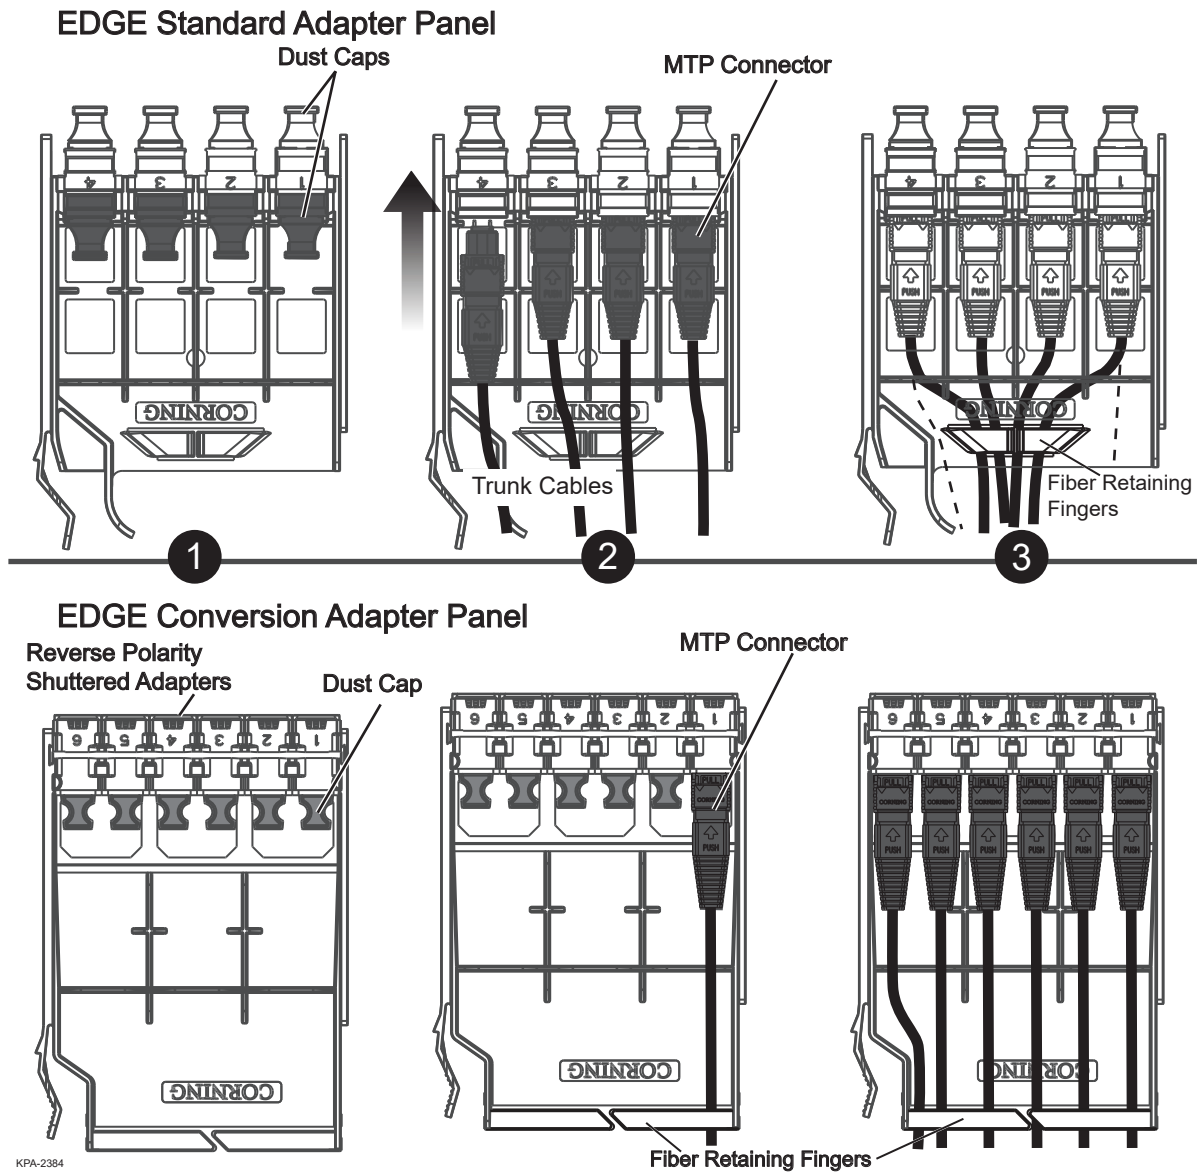

Figure 21 — Install MTP Trunk Cables into Adapter Panel.
Step 2: Mate the MTP connector(s) into the rear of the adapter(s) (Figure 21).